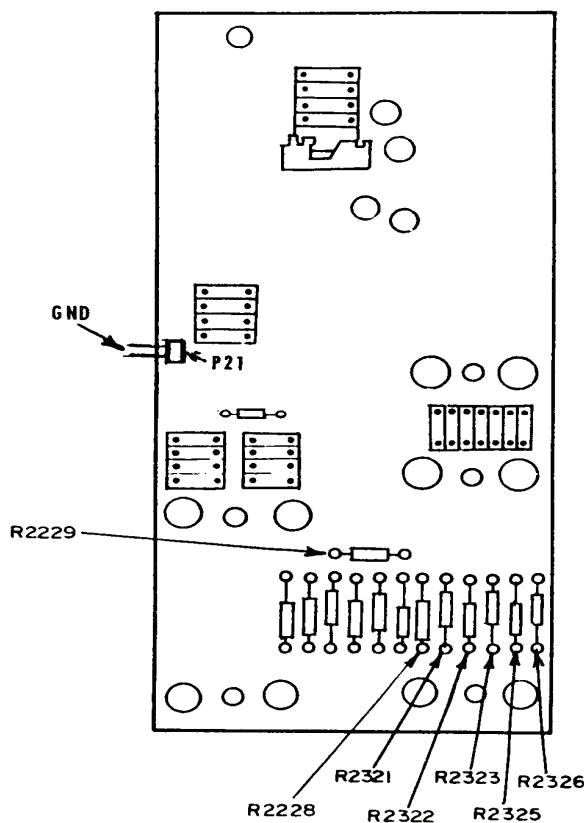

Figure 6. Vert amp/slow ramp board - top view.
- (i) **CABLE DIELECTRIC** pushbuttons as listed in (1) through (3) below:
(2) Connect termination to TI CABLE connector.
(3) Position base of pulse on crt horizontal graticule centerline, using **POSITION/FINE** controls.
(4) Remove termination. If trace shifts by more than 0.5 divisions, perform **b** below.
(5) Set **mp /DIV** switch to **500** or lower to obtain 1.000 V in next step.
(6) Connect multimeter negative lead to ground terminal GND of P21 (fig. 6) and positive lead to left end of R2229 (fig. 6).
(7) Adjust **POSITION/FINE** and **ZERO REF (SET)** controls until multimeter indicates $1.000\text{ V} \pm 0.008\text{ V}$.
Test instrument resistor test points (fig. 6)	Multimeter indications (V dc)